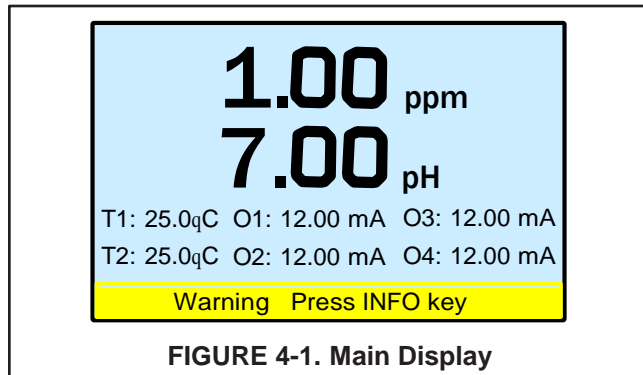

FIGURE 4-1. Main Display
The transmitter has a four line display. See Figure 4-1. The display can be customized to meet user requirements. See Section 4.5. Fault or warning messages, if appropriate, appear at the bottom of the screen. See Section 11.1.
1. With the main display showing (Figure 4-1), press the ENTER/MENU key. The main menu, shown at left, will appear. **Pressing the ENTER/MENU key will bring up the main menu only if the main display is showing.**